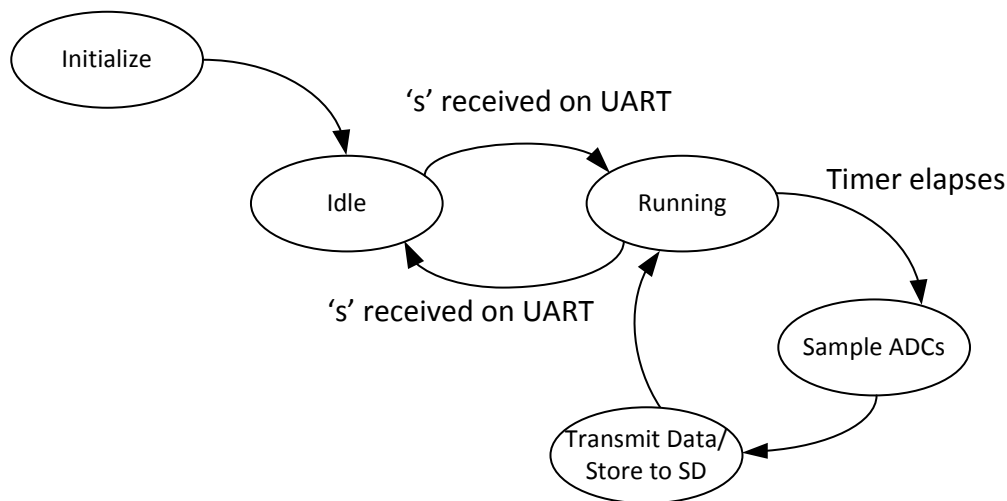

Figure 1: Lab 3 State Machine
3. In a previous lab you implemented serial transmission. To start the data logging you need to be able to receive a byte from the PC and receive a different byte to stop. You must create a state machine in your program using an enum. Figure 1 show the state machine you need to implement. To start sampling, use the character 's' to stop sampling you must also use 's'.